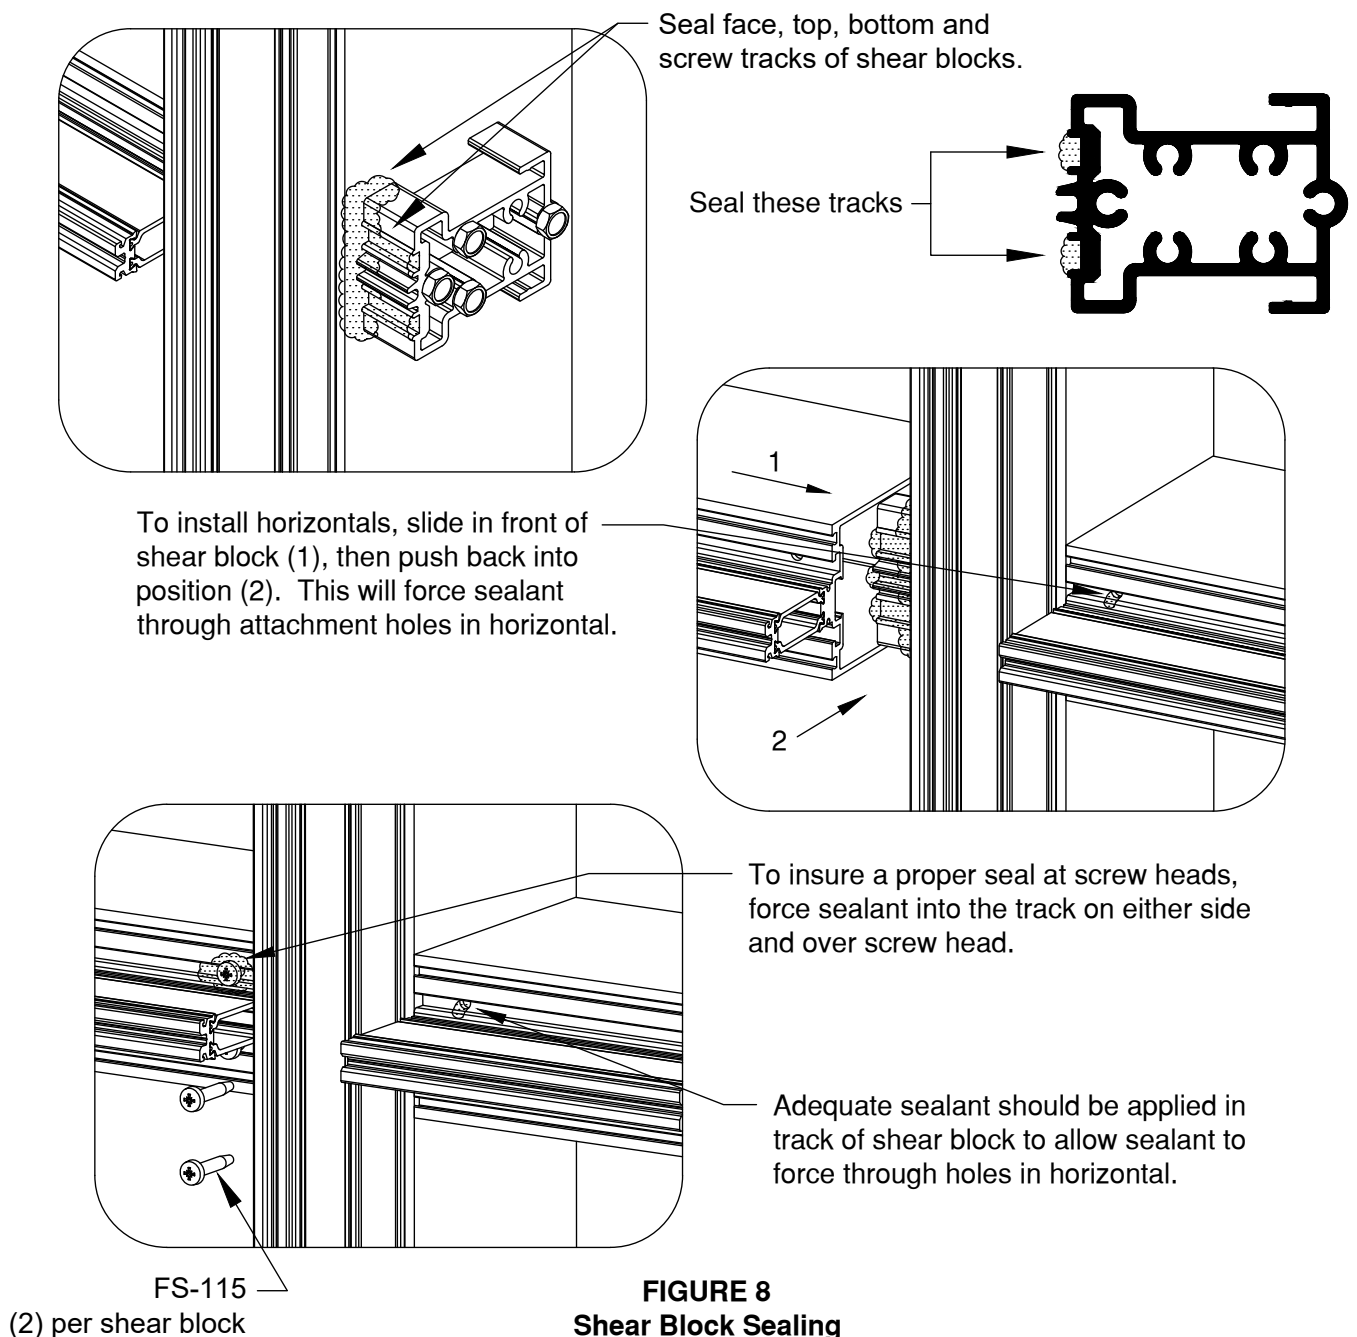

FIGURE 8
- 2.2 Seal around shear blocks prior to installing each horizontal mullion. Install horizontal mullions as shown in **FIGURE 8**. Prior to attaching screws, make sure sealant has been forced out of the holes in horizontal. If not, apply a liberal amount of sealant into each hole. Secure horizontals to shear block with two (2) FS-115 #10 x 1" Phillips Pan Head screw at each end of horizontal. Check head of screw to insure proper seal, sealing track on each side of screw.